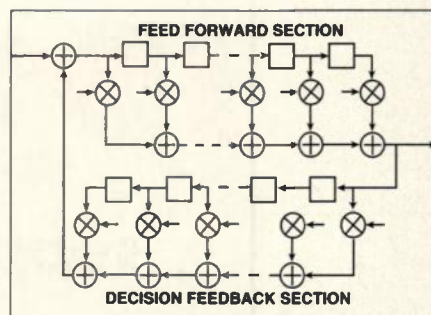

Figure 2. Adaptive equalizer block diagram.
Practical QAM demodulators must contain an adaptive equalizer (AE) to reduce the effects of multipath and ISI. Think of an AE as a tapped delay line that creates delayed versions of the main signal that are used to cancel out the multipath. A block diagram of a typical AE is shown in Figure 2. The AE can have only a finite number of taps and can only cancel multipath that is within its time delay range. The number of taps, the symbol rate and the tap spacing determine the time delay range. Most AE designs are either T (T = symbol rate), spaced (also called synchronous designs) or T/2 spaced (also called fractionally spaced designs). For example, a 64-QAM ITU-T J.83(B) signal with a symbol rate of 5.05 Msps has a symbol duration of about 0.2  $\mu$ s. Therefore each tap in a T-spaced AE contributes 0.2  $\mu$ s of delay range. With a 16-tap decision feedback equalization (DFE) AE, the maximum echo that could be corrected would be  $16 \times 0.2 \mu$ s = 3.2  $\mu$ s. Echoes with a delay greater than this would be beyond the range of the AE and would appear as noise to the system.